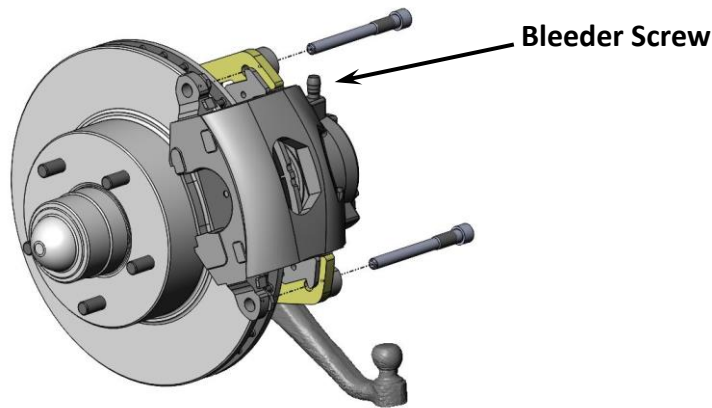

Figure 6 – Caliper Installed
9. Mount the caliper to the caliper mounting bracket. With the pads installed in the caliper, slide the caliper over the rotor and line up the mounting ears of the caliper with the holes in the caliper mounting bracket. Tighten and torque the bolts to 45 ft/lbs. **NOTE:** When installing the calipers, make sure the brake bleeders are pointing upward. See Figure 6 on the next page for reference.